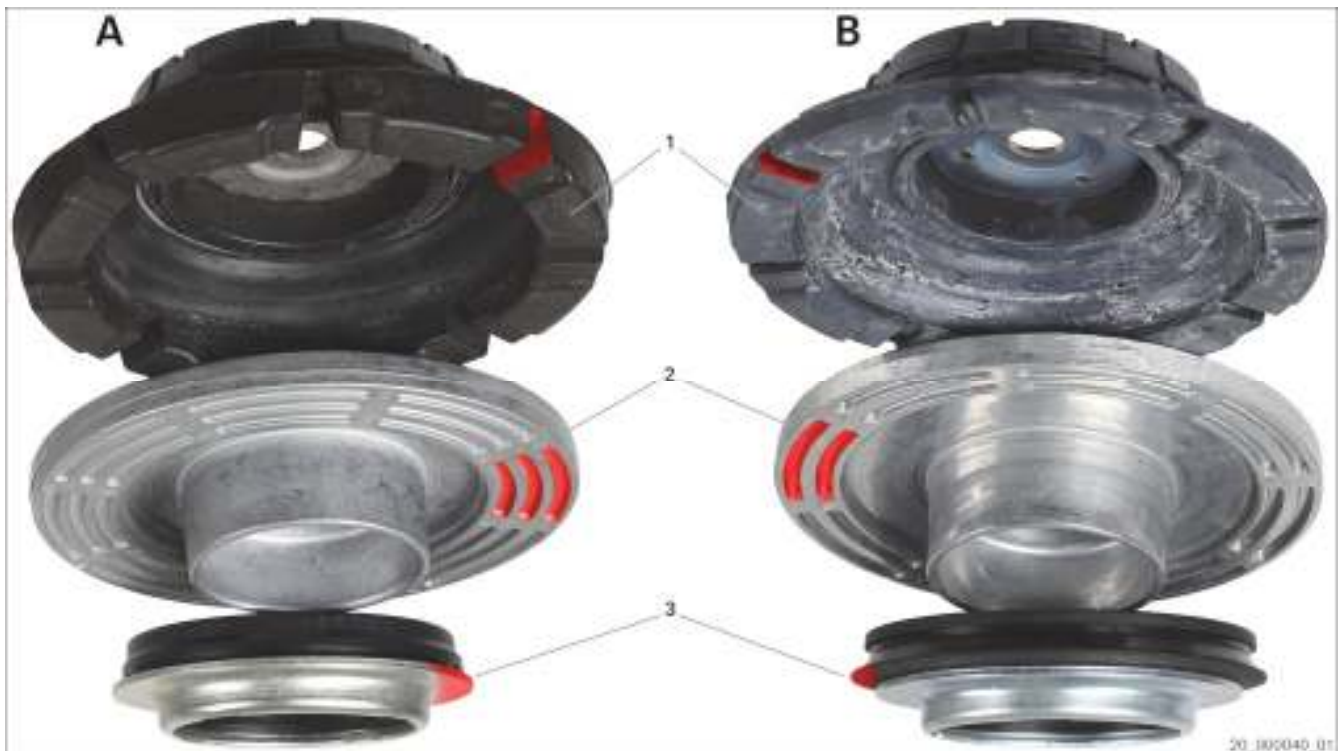

Fig. 1: suspension-strut mount version A/B
In the Volkswagen T5, one of the two versions can be installed ex works: A or B (Fig. 1).
- During disassembly, check which version is installed in the vehicle (Fig. 1: red markings).
- Check disassembled spring plates (2) for damage. If the spring plate (2) is damaged in the case of Version A, the component must be converted to Version B. During conversion, all parts (1, 2, 3) have to be replaced, since the spring plate of Version A can no longer be obtained from the vehicle manufacturer.